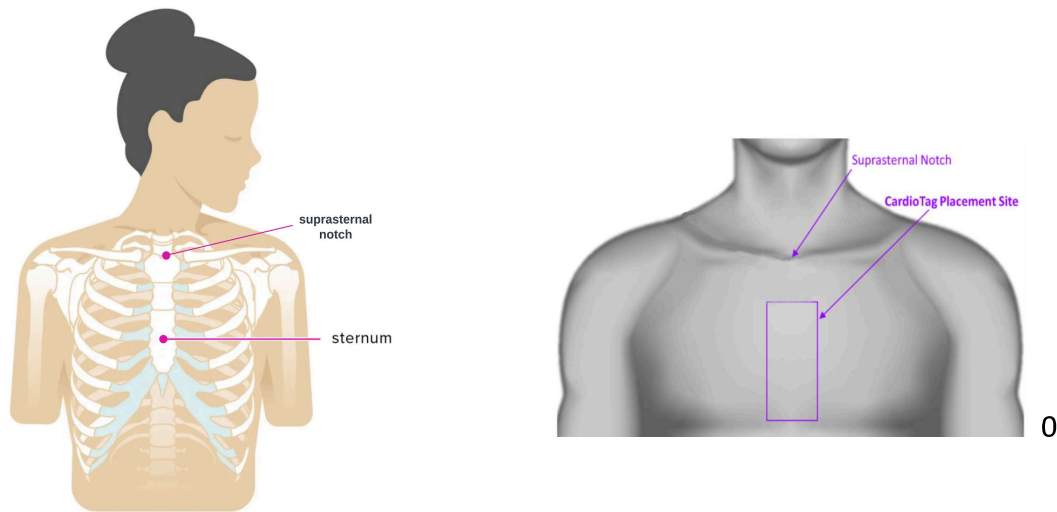
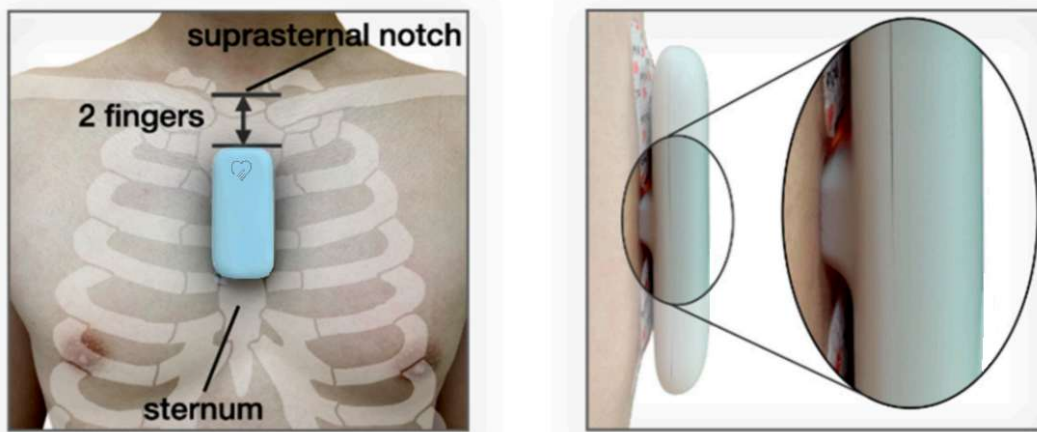

Figure 7: Suprasternal notch and sternum, an anatomy view
Figure 8: Estimate of CardioTag Placement Site, and correct Placement of the CardioTag on the chest via electrodes
- If body hair is present on the patient's sternum, shave the hair on the sternum completely (see Figure 7 for anatomical location).
- Use a 70% isopropyl alcohol wipe to clean the CardioTag placement site area on the patient's skin (Figure 8). Allow the area to dry completely. Do not apply lotions, oils, or perfumes.
- Using Figure 7 as an anatomical reference, place the CardioTag device perpendicular on the center of the patient's sternum with the upper edge of the top electrode two finger widths below the bottom of the suprasternal notch, as shown in Figure 8. Make sure the heart logo is upright. Press the CardioTag firmly on the sternum to make sure it is attached.
- Have the patient remain still for two (2) minutes, or 120 seconds, while the CardioTag is recording. Once the measurement session has completed, the device LED will turn solid green.